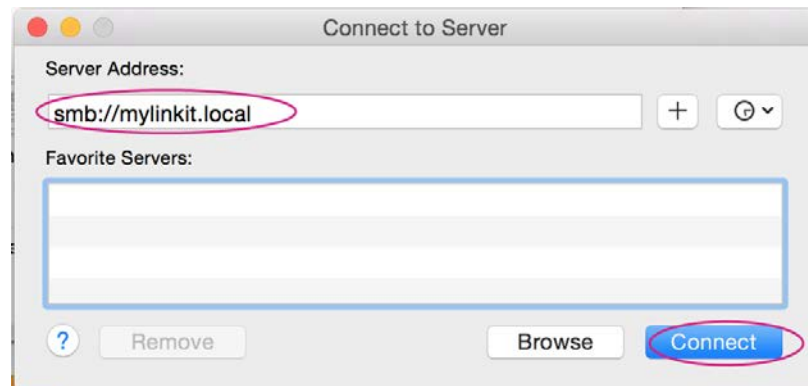

Figure 39 Connecting to mylinkit.local server in Mac
- 2) In the server address field, type **smb://mylinkit.local** and click **Connect**, as shown in Figure 39.